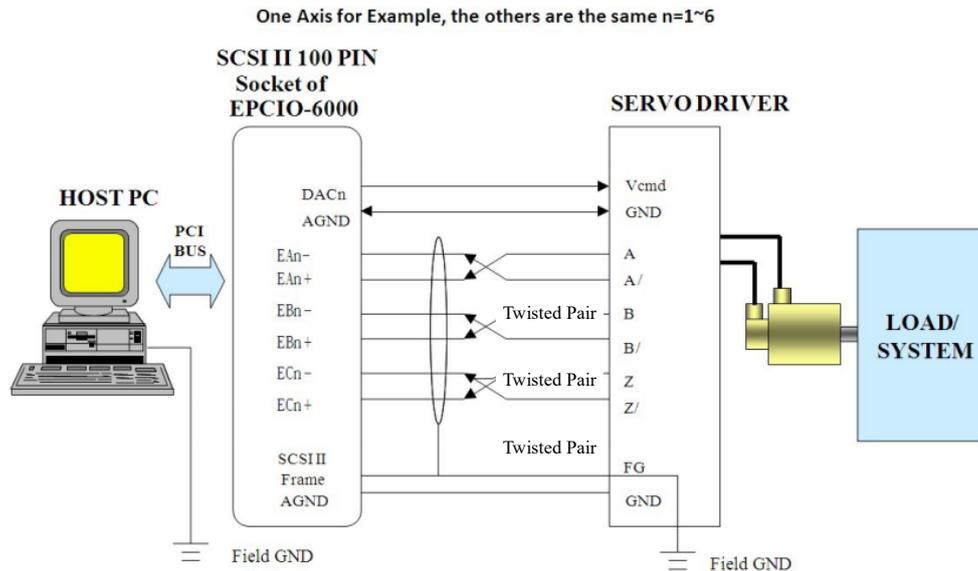

Figure 3-4.1
3.4.1 Hardware wiring (refer to Section 3.1 Basic Installation and the following description). Taking EPCIO-6000 for example, the following diagram (Figure 3-4.1) shows how EPCIO-6000 is connected to a velocity-command servo motor system.
- The motor encoder signals (A/B/Z signals) of the servo driver must be connected back to EPCIO-6000 in differential form (as shown in Figure 3-4.1). It is recommended that the three sets of signal lines A and A/, B and B/, and Z and Z/ are cables with a shielded twisted-pair to reduce common-mode noise. In addition, as shown in Figure 3-4.1, the cables with a shielded twisted-pair isolate signal transmission from external electromagnetic interference.